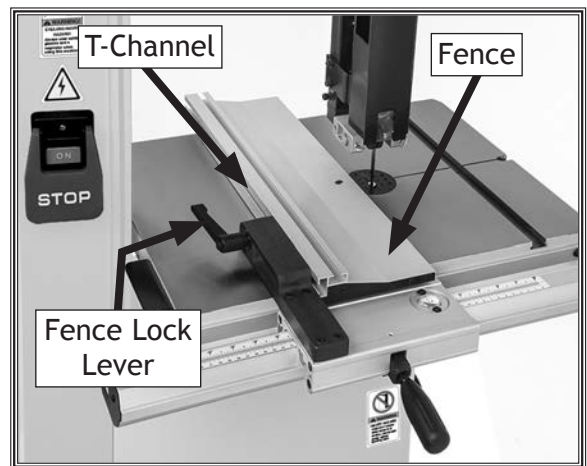

Figure 31. Fence installed in horizontal position.
- For *thin* workpieces, mount fence in horizontal position, as shown in Figure 31, then rotate fence base lock lever to secure.